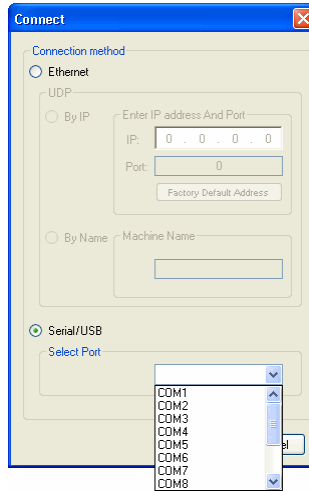

Figure 28: Connect Serial/USB
4. If you are upgrading using an RS-232 or USB connection, click **Serial/USB** (see Figure 28) and then: